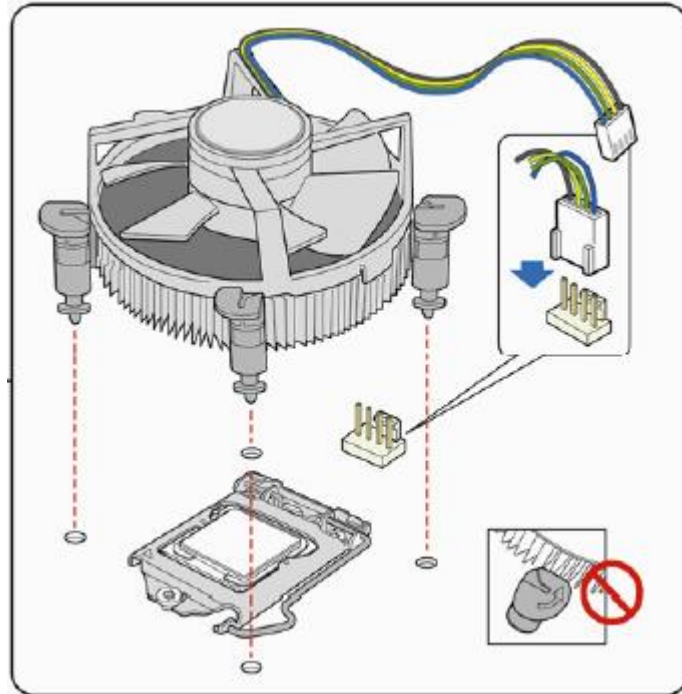

Figure 23: Connecting the processor fan heat sink power cable to the processor fan header
- Carefully lower the socket lever (Figure 23) while making sure that the front edge of the load plate slides under the shoulder screw cap as the lever is lowered. Latch the socket lever under the load plate tab (Figure 23, C, and D). The socket cover (Figure 23, B) will pop off as shown.